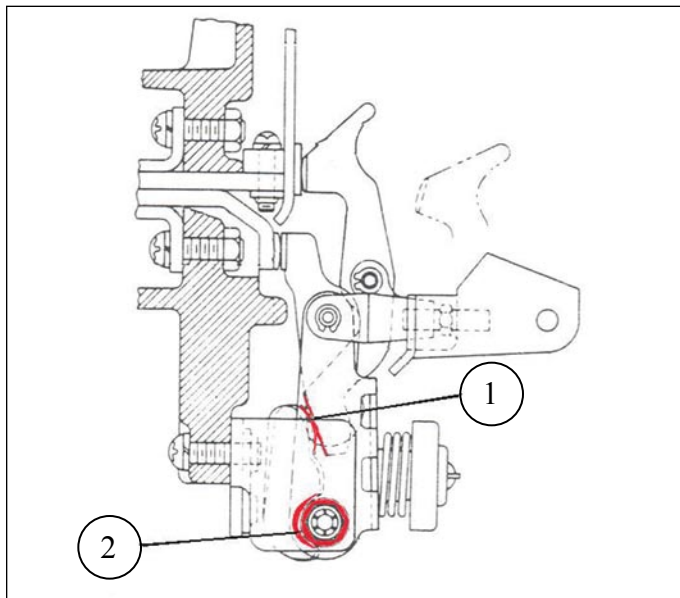

Figure 1 — ABB/ITE K-600 Contact Wear Points (Courtesy ABB Power T&D)
Figure 1 is an ABB/ITE K-600 circuit breaker contact assembly. Note the number of points where wear takes place. The primary points of wear are at the arcing contact/tensioner contact (2) and the contact roller/tensioner contact (1). Lack of lubricant at point 1 causes wear across both contact faces, while lack of lubricant at point 2 causes the breaker to slow down and grooving to be cut into both the roller and the tensioner contact. Eventually the breaker will seize if the components aren't replaced and new lubricant isn't applied.